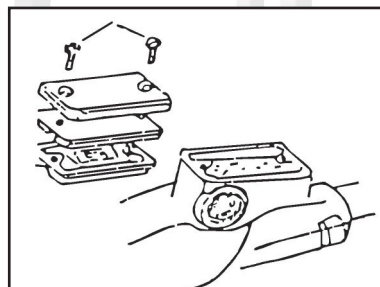

Fig. 2
- Check the brakes for excessive wear. The middle groove of the brake should still be visible. If it isn't, the pads should be replaced. *See Fig. 2.*